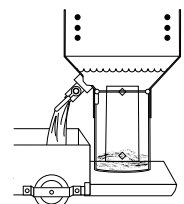

FIGURE 17
4.  **DANGER:** Drain hot cooking oil only into metal containers. Place container or shortening tender under drain valve and open valve by flipping handle down. Allow cooking oil to cool before further handling. (Figure 17)